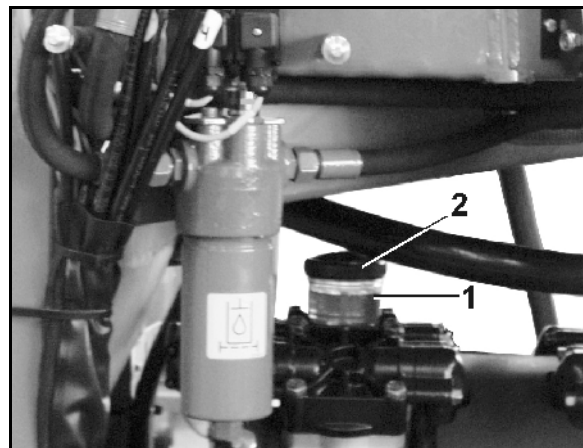

Fig. 146
1. Check whether the oil level is at the mark (Fig. 146/1) is visible with running pump in horizontal position.
2. Remove the lid (Fig. 146/2) and top off the oil if the oil is not visible at the mark (Fig. 146/1).
2. Remove the lid (Fig. 146/2).
5. Turn the drive shaft, alternating to the right and left hand side and slowly pour in new oil. The correct oil quantity has been poured in when the oil is visible on the marks (Fig. 146/1).